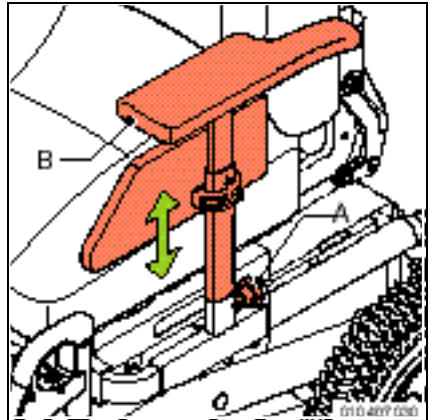

Figure 34
1. Loosen the star knob (A) (figure 34).
2. Remove the armrest (B) together with the side panel.